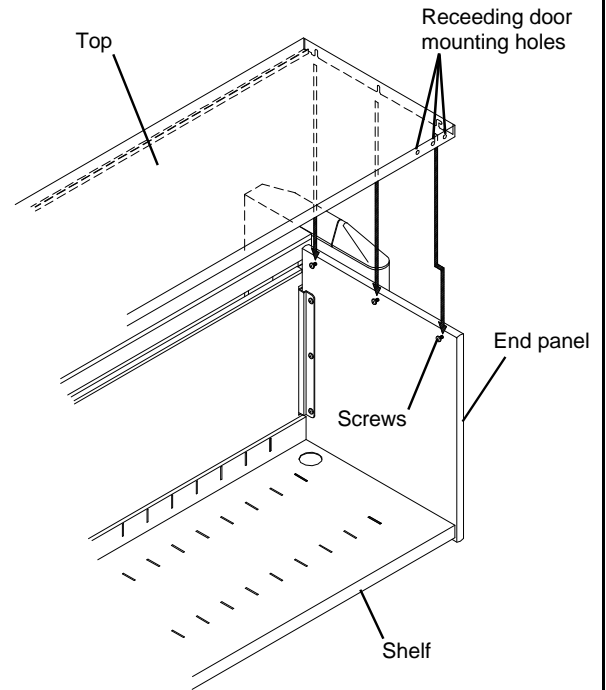

Figure 4
2. Position the Top between the End Panels above the screws. **NOTE:** The Receeding Door mounting holes must face towards the front. Lower the Top so that all six screws engage their corresponding slots in the Top. Next, tighten the screws to secure the Top. See **Figure 4**.